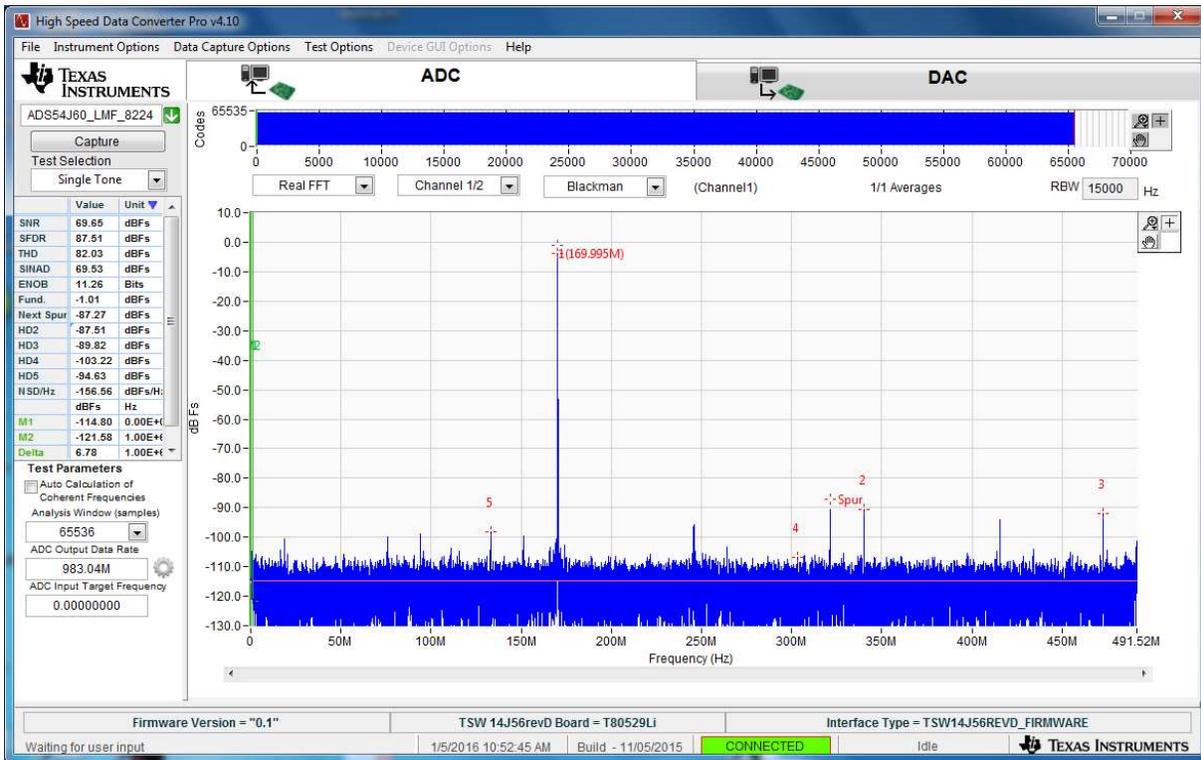

Figure 5. Channel 1 Data Capture Results from Quick Start Procedure
- The results from the captured data of Channel 1 should look like Figure 5 and the performance should be similar to Table 1. If this result is not achieved, then see the Quick Start Troubleshooting section of this document.